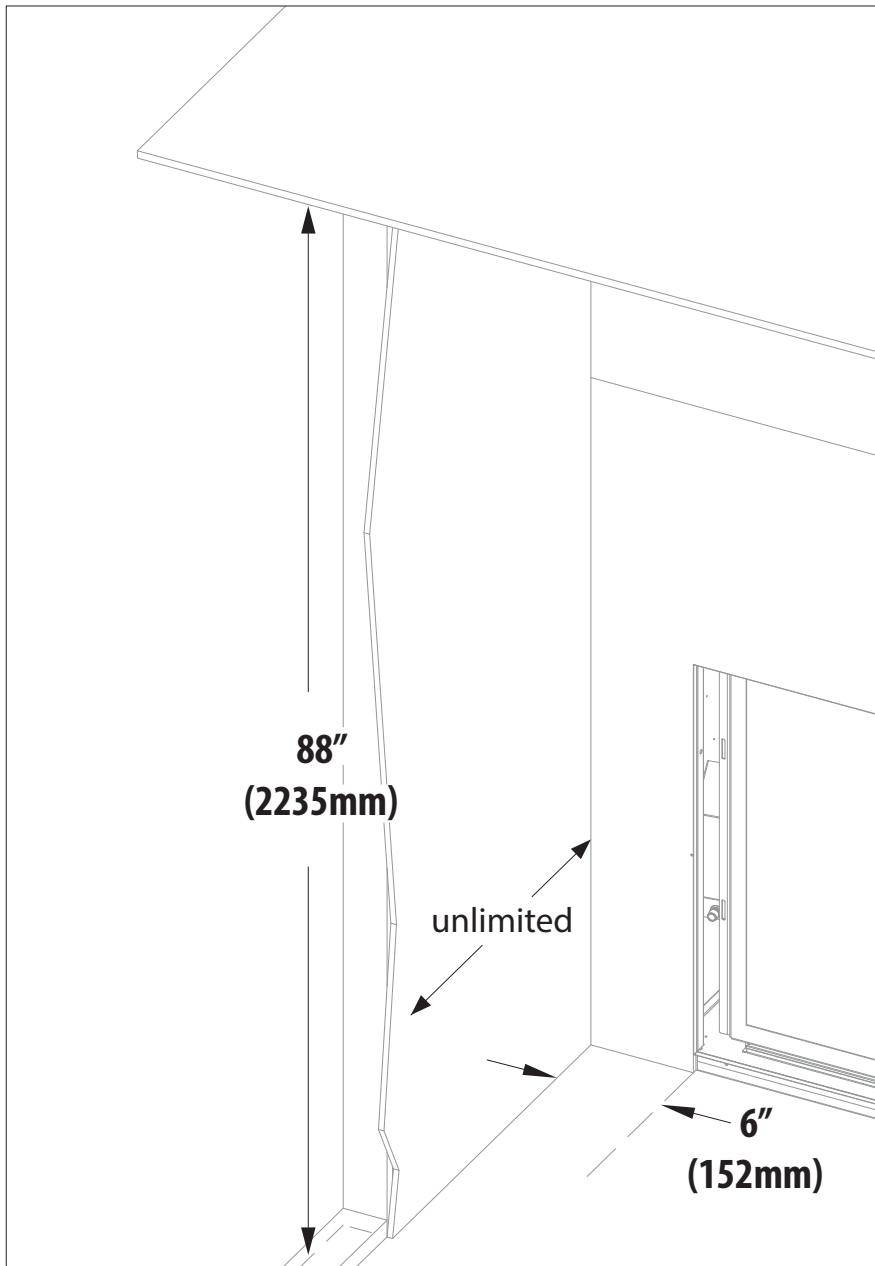

Figure 4.3, Adjacent Sidewall Clearances
- **Mantel Leg:** There is a required 6" (152mm) clearance to any combustible or non-combustible mantel leg. See Figure 4.3 on page 32.
- The adjacent sidewall minimum clearance is 6" (152mm) from the side finishing edges of the fireplace. See Figure 4.3 on page 32.